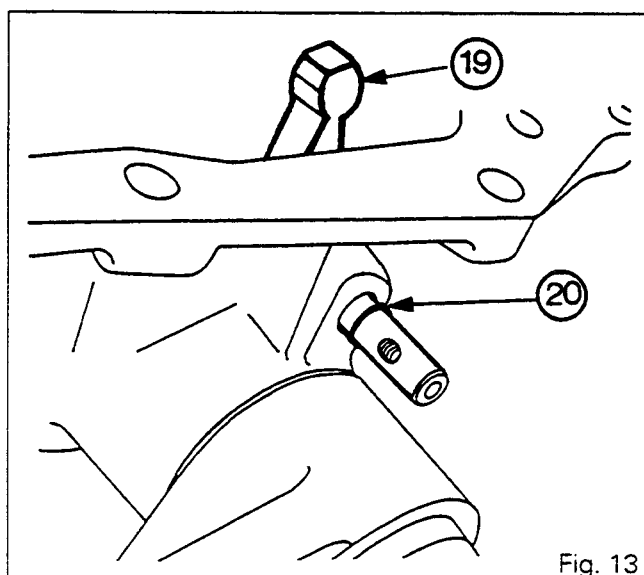

Fig. 13
46. Mount the previously selected shims [12], the washer (1), the retainer (3) and the bolt (2).
47. Tighten the bolt (2) so as to align two flat sides of the screw head with the two tabs of the retainer (3). Bend back the tabs.
48. Refit the finger (19) (Fig. 13).
49. Mount the O-ring (20) from the exterior side of the cover (Fig. 13).
50. Smear the screws (18) and (22) with Loctite 241 and tighten.
52. Fit the elbow connector (23).